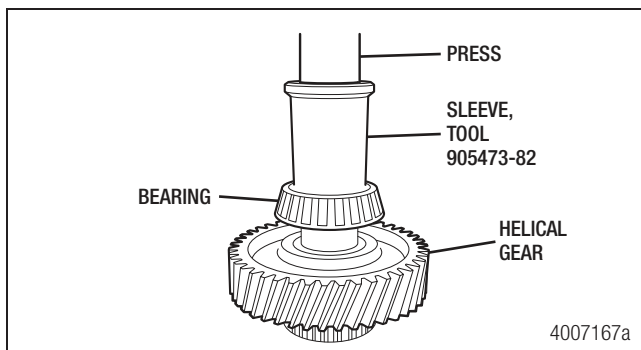

Figure 7.13
- Use a press and sleeve to press the bearing DOWNWARD onto the output shaft until it bottoms out against the helical gear. Refer to "Bearing Cone Driver (905473-82)" on page 111. Use a 0.002" shim or feeler gauge to verify the bearing is fully seated against the gear. Figure 7.13.